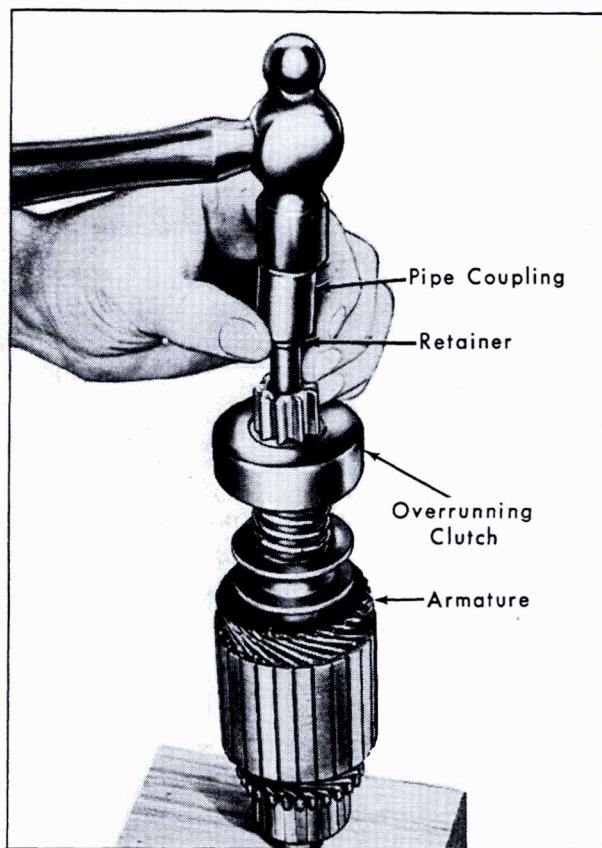

Fig. 6-17 Removing Overrunning Clutch
b. Slide clutch assembly onto armature shaft with pinion outward, Fig. 6-17.
c. Slide retainer onto shaft with cupped surface facing end of shaft, Fig. 6-17.